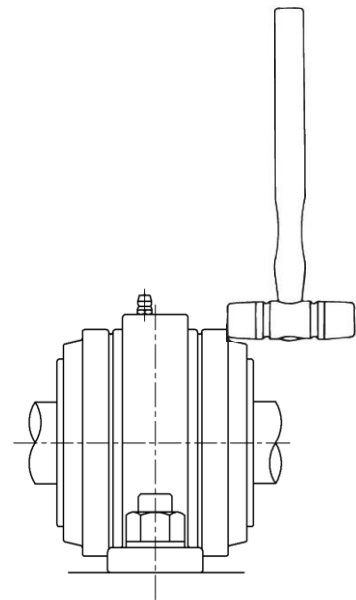

Fig. 5.2: Attaching pressed steel covers
- 5) For pressed steel covers, attach it by tapping the side of the circumference with a wood hammer or plastic hammer as shown in Fig. 5.2.